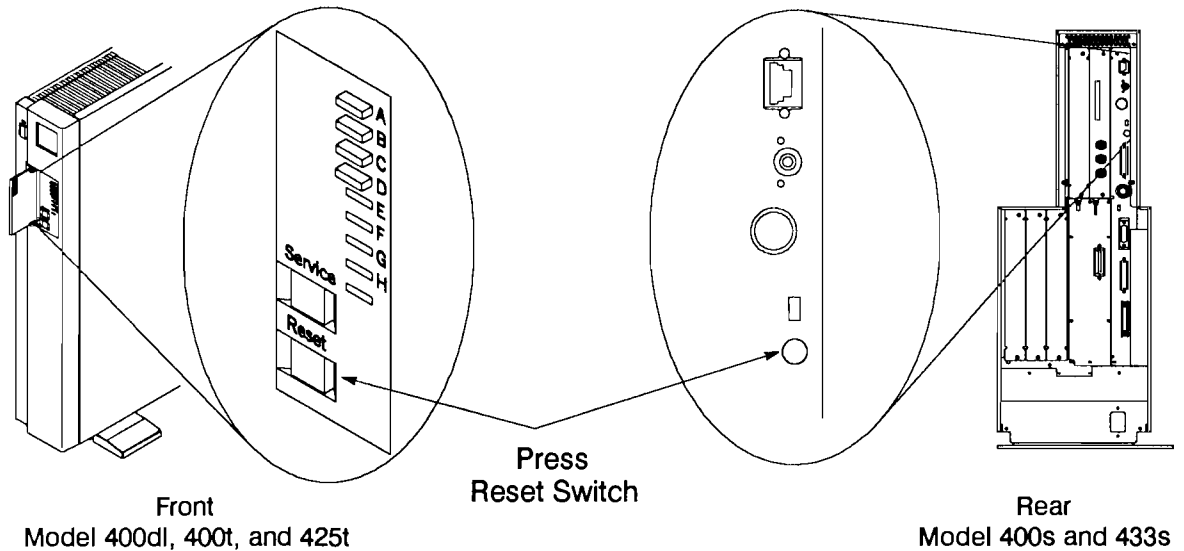

Figure 6-6. Resetting the System Manually
8. Because the crash status message didn't appear, you should now manually reset your system. To do this, press the Reset switch on the Model 400dl, 400t, or 425t workstation's front panel or on the Model 400s or 433s workstation's rear panel as shown in Figure 6-6.